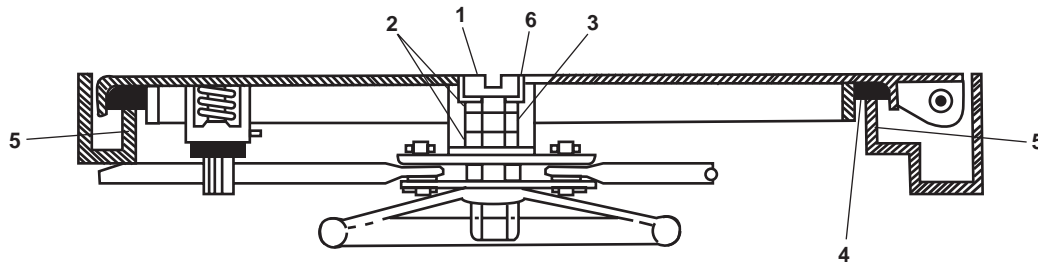

Figure 1. Watertight Scuttle
1. Remove the dog stud (figure 1, item 1).
2. Remove the delrin bushings (figure 1, item 2) and preformed packing (figure 1, item 3).
3. Use a scraper to remove the gasket (figure 1, item 4).
1. Inspect the gasket sealing edge (figure 1, item 5) for damage or deformity. Repair minor deformities as described in the repair paragraph. Refer major deformities to the maintenance supervisor.
2. Inspect the bushing (figure 1, item 2) and seals (figure 1, item 6) for wear or damage. Replace any worn or damaged components.
Minor repairs to the gasket sealing edge (figure 1, item 5) may be made by welding.